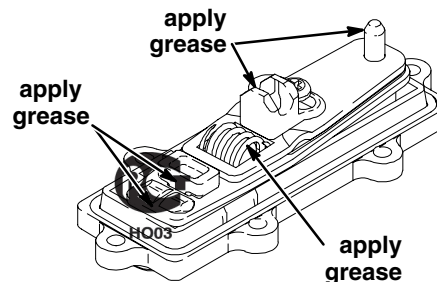

Fig. 3
3. Apply grease (B) generously as shown in Fig. 3.